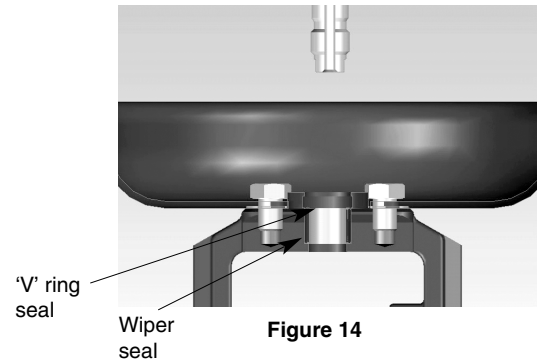

Figure 14
6. Withdraw the actuator spindle and remove the 'V' ring spindle seal and wiper seal taking care not to damage the spindle bearing (Figure 14). Smear the new 'V' ring and wiper seal with silicon grease and replace.